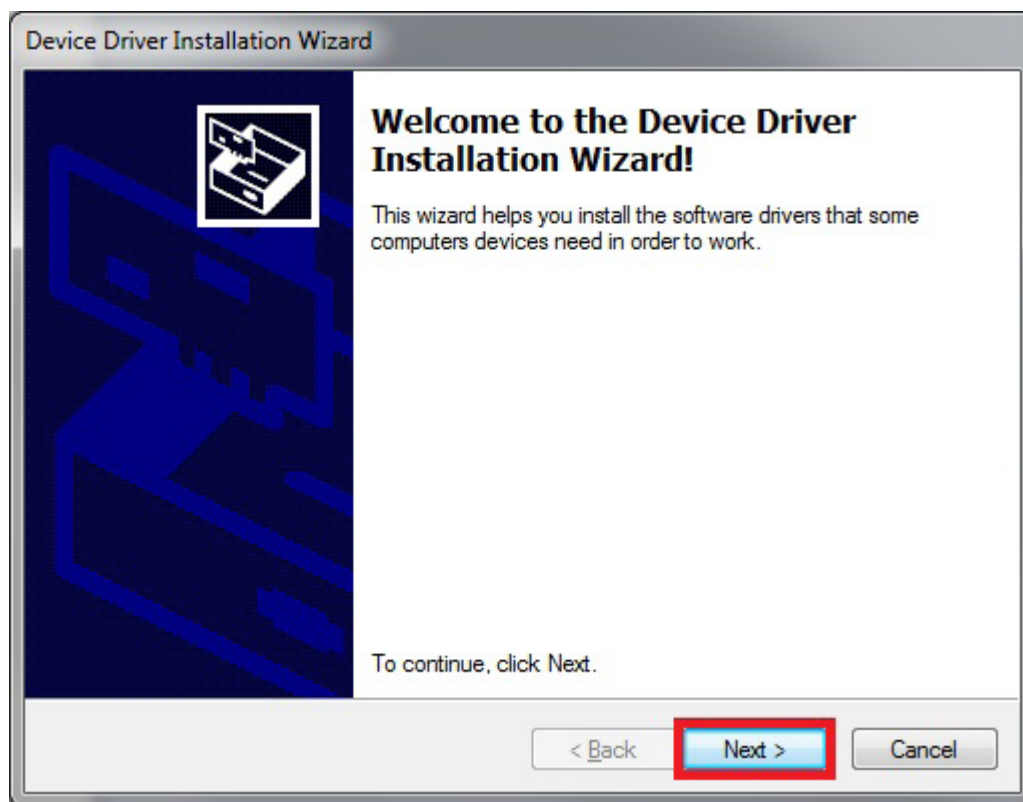

Figure 7. Device Driver
- 8) Click on **Next** when the Device Driver Installation Wizard appears (Figure 7).